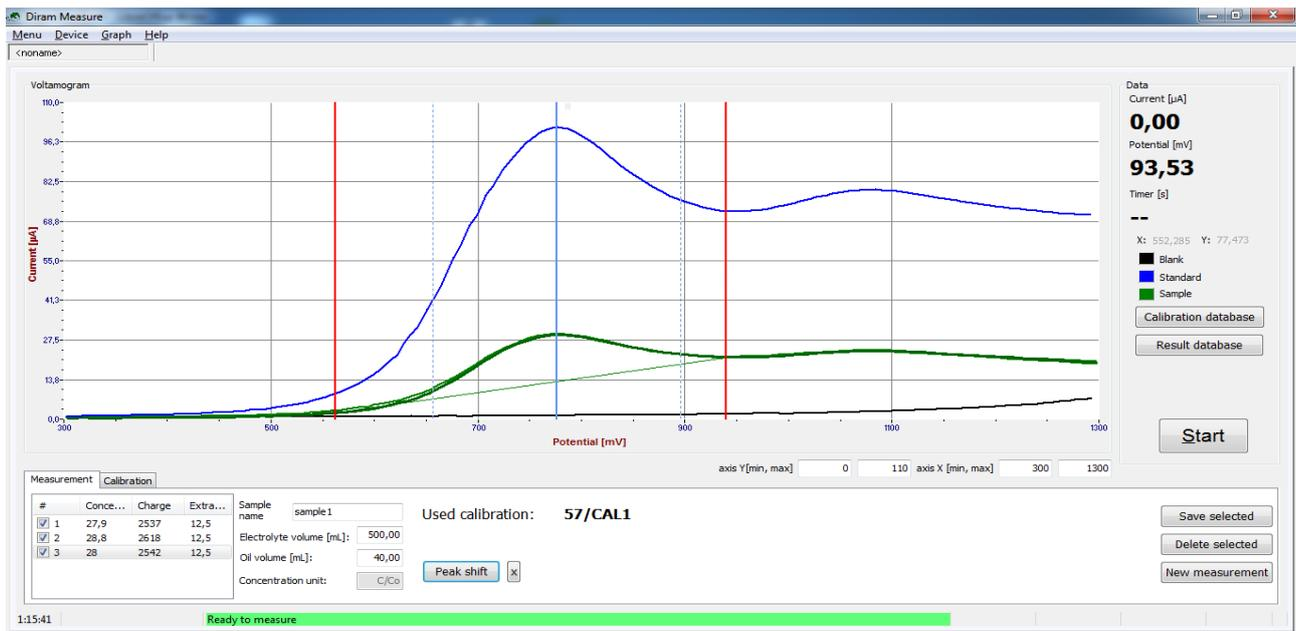

Figure 12: Results for the electrolyte - **Blank** (black curve), **Standard** (blue curve) and three times measured **Sample** (green curves).
- Use the same procedure to measure Sample at least three times until stable and reproducible results are obtained. (**Fig. 12**). Average of measured values (27.9 %, 28.8 % and 28.0 %) gives resulting 28.2 %. The sample oil contains 28.2 % of original antioxidant level.